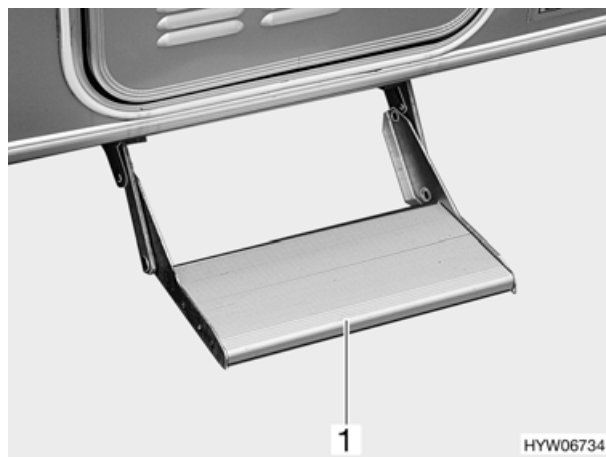

Fig. 6 Entrance step
- Hold of the bottom of the entrance step (Fig. 6,1) pull out and fold down.